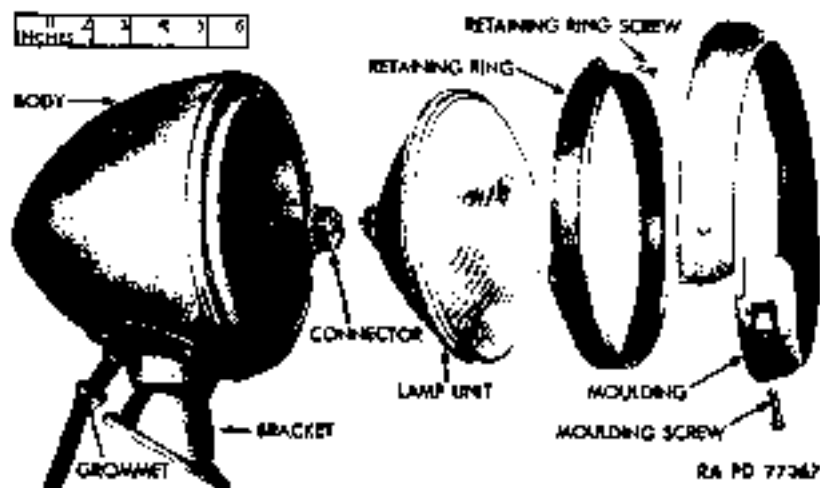

Figure 98 - Headlight Disassembled
(1) DESCRIPTION (fig. 98). Two sealed-beam headlights are mounted outside the cowl above the front fenders. The unit, consisting of lens, lamp, and reflector, is held in place by a retaining ring covered by moulding.